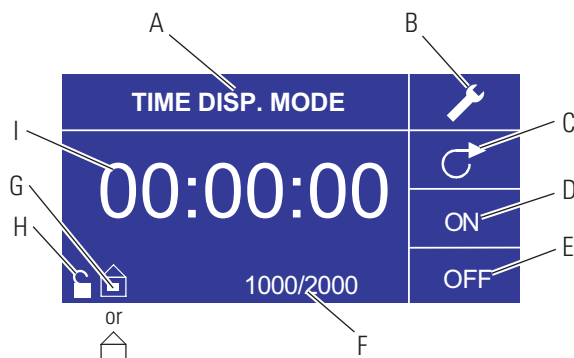

Figure 3-4. Time Dispense Mode Screen
- I. **Time Display:** The center digits show the remaining time of the drive in the ON or OFF Time highlighted on the right of the display (position D or E, Figure 3-4).
6. **Setting ON Time:** To set the ON Time, use the directional pad and ENTER key to select the ON field (see position D, Figure 3-4). Doing so will highlight the timer in the center of the screen (see position I, Figure 3-4). Pressing ENTER again, allows the timer to be set using the UP/DOWN arrows. Switch between digits using the LEFT/RIGHT arrows. Having selected an optimal ON Time, press ENTER again to validate. The drive will now run for the time appearing in the center of the screen.
7. **Setting OFF Time:** To set the OFF Time, use the directional pad and ENTER key to select the OFF field (see position E, Figure 3-4). Doing so will highlight the timer in the center of the screen (see position I, Figure 3-4). Pressing ENTER again, allows the timer to be set using the UP/DOWN arrows. Switch between digits using the LEFT/RIGHT arrows. Having selected an optimal OFF Time, press ENTER again to validate. The drive will stop running for the time appearing in the center of the screen. **NOTE:** If the OFF Time is set to 00:00:00, the drive requires a START/STOP input from the keypad or the remote I/O Connector to start the next dispense.
8. **Selecting Batch Size:** Before running the drive at the selected ON/OFF Times, select a batch size for the operation. To do so, use the directional pad and the ENTER key to select the BATCH icon (see position F, Figure 3-4). In the Batch Count screen, press the ENTER key and then use the UP/DOWN arrows on the directional pad to select a batch size. Switch between digits using the LEFT/RIGHT arrows. Press ENTER one more time to validate the selected batch size. When set to zero (0) the drive will run for an infinite number of cycles and the ∞ symbol is displayed. Use the directional pad to select EXIT to return to the Time Dispense Operation Screen.
10. **Resetting Batch:** To reset a batch, use the directional pad and the ENTER key to select the BATCH icon (see position F, Figure 3-4). In the Batch Count screen, use directional pad to select RESET and press the ENTER key to reset the batch count, select EXIT to return to the main Time Dispense Mode operation screen.